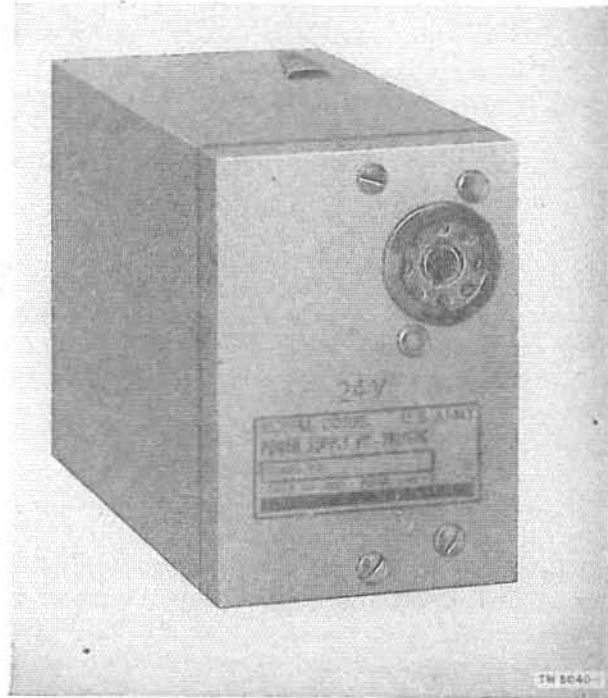

Figure 28. Power Supply PP-282/GRC, front view.
b. Insert and clamp the plug-in power supply unit (fig. 28) in the compartment on the amplifier chassis (fig. 60) so that the receptacle on the power supply mates with the plug within the amplifier compartment. Use Power Supply PP-281/GRC for 12-volt systems and Power Supply PP-282/GRC for 24-volt systems.
b. Insert and clamp the plug-in power supply unit (fig. 28) in the compartment on the receiver chassis (fig. 71) so that the receptacle on the power supply mates with the plug within the receiver compartment. Use Power Supply PP-281/GRC for 12-volt systems and Power Supply PP-282/GRC for 24-volt systems.